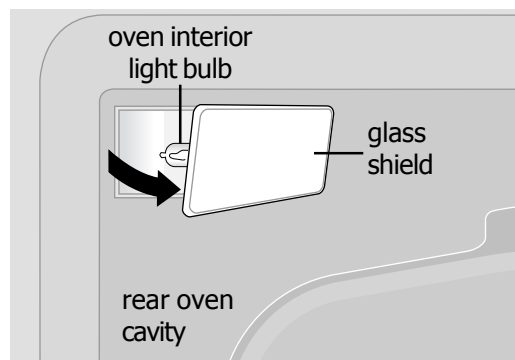

Fig. 1
The interior oven light is located at the rear oven cavity and is covered with a glass shield. The glass shield must be in place whenever the oven is in use (See Fig. 1).
2. Remove interior oven light shield (See Fig. 1).